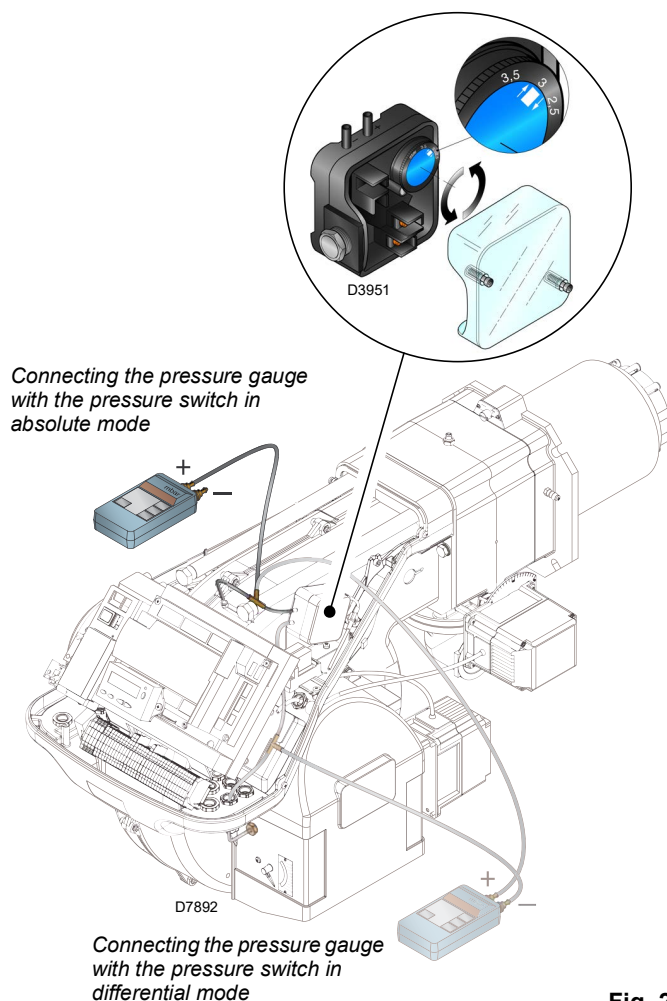

Fig. 29
- Adjust the air pressure switch (Fig. 29 at page 35) to the start of the scale.
Adjust the air pressure switch (Fig. 29) after having performed all other burner adjustments with the air pressure switch set to the start of the scale.
The connection of the pressure gauge is shown in Fig. 29. The standard configuration is that with the air pressure switch connected in absolute mode. Note the presence of a "T" connection, not supplied.
In this case also, the pressure gauge must be connected in differential mode, as shown in Fig. 29.